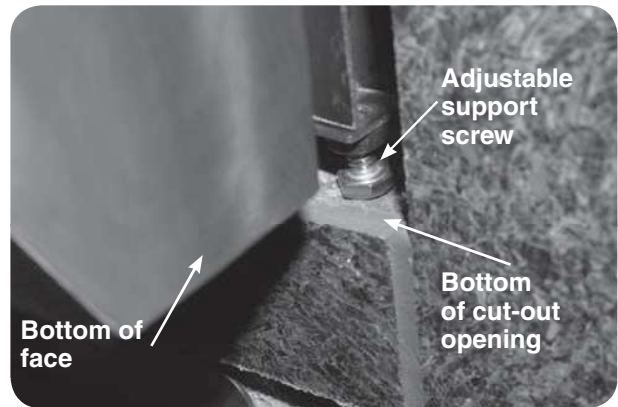

Fig. 18-1 Adjust support screws
- Rotate the adjustable support screws to the left to raise and to the right to lower the respective side of the appliance grill. Use a $\frac{7}{16}$ " open-end wrench as needed. See Fig. 18-1.